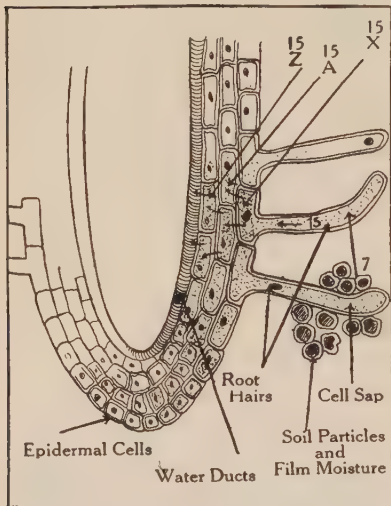

FIGURE 256. — ROOT HAIRS.
from the center of many of these cells a long, hairlike outgrowth. This is part of an *epidermis* cell of the root and is the *root hair*, which is really a cell or at least a part of a cell (Fig. 256). The cell wall can be plainly seen, as can the lining of protoplasm just inside, and the cell sap occupying the whole center of the cell. Somewhere in the cell a nucleus may be made out. Two things should be particularly remembered. (1) The cell wall is so very thin that soil water can soak through it, and (2) the root hairs are so numerous (480 of them have been counted on a root $\frac{1}{17}$ of an inch in
408. How the Whole Plant Gets Water. — With the absorption of water into the root hairs the problem of getting it to all parts of the plant is just begun. The whole root is a mass of tissues, each tissue having a special function. The *epidermal tissue* protects the root and absorbs water, the *cortex tissue* stores food and prevents evaporation of water, the *central cylinder* contains the *ducts* and stores food, while the ducts themselves carry air and water up and down the long axis of the root and connect with other ducts, in the stem, which extend up to the leaves. But all these tissues are composed of cells, with walls which have no openings. This means that liquids can pass from cell to cell only by osmosis and that the same laws that apply in the root hair must apply to every live cell in the root and in the whole plant. Study Figure 256. In this diagram, for the sake of illustration, the density of the soil water is marked 7 while that in cells A, Z, and X is marked 15.